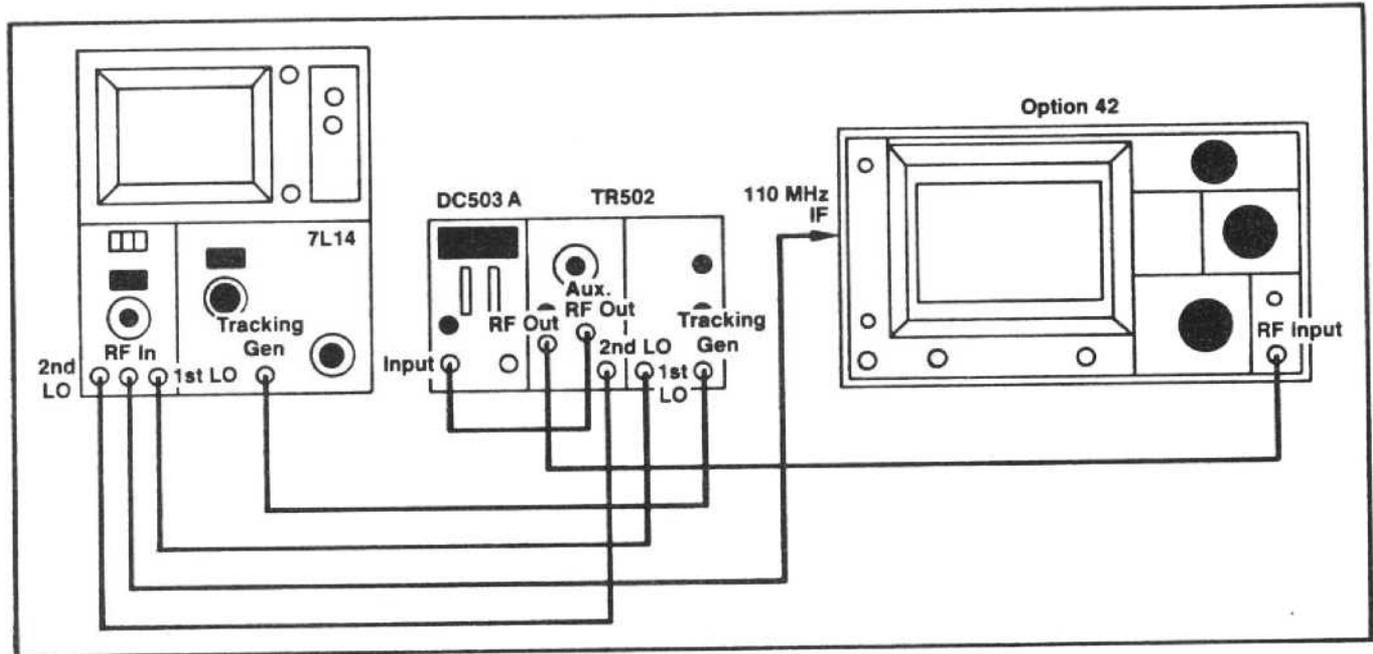

Fig. 4-24A
a. Connect the test equipment as shown in Fig. 4-24A.